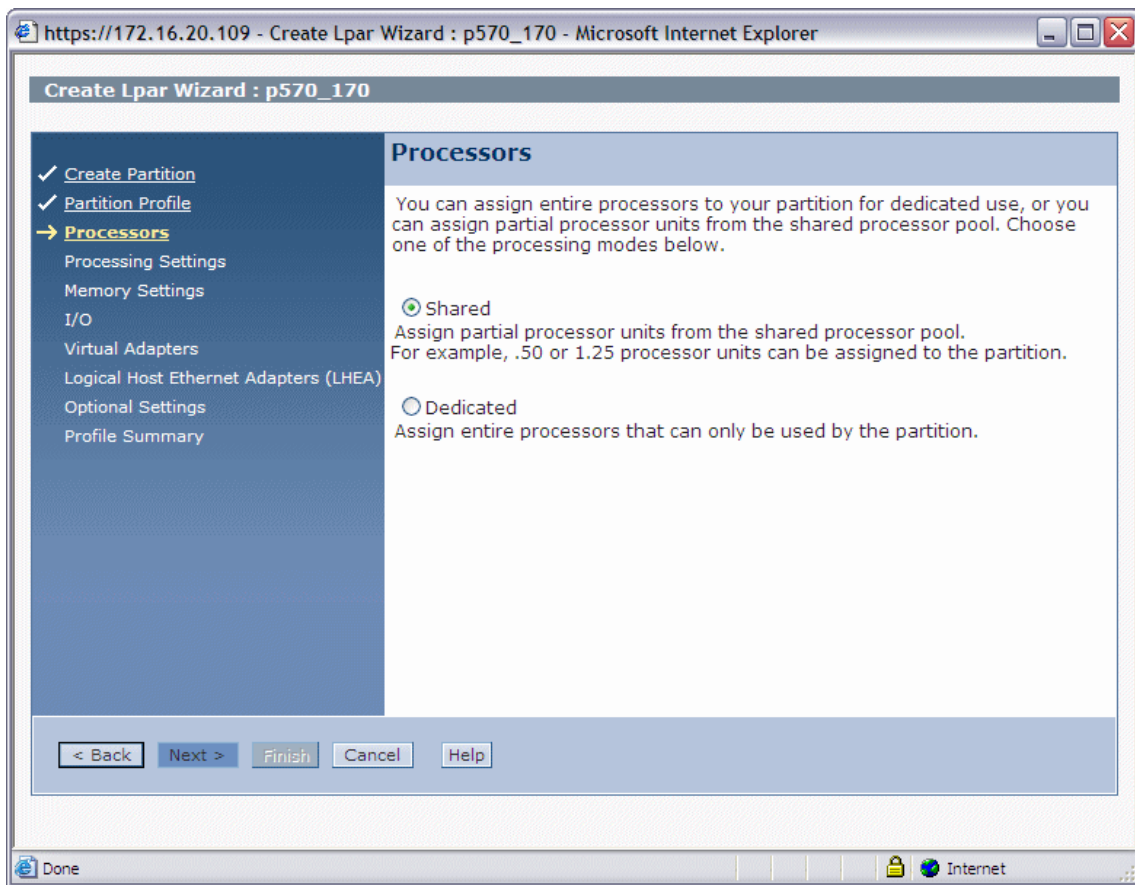

Figure 12-6 HMC Select whether processors are to be shared or dedicated
4. Select whether processors are to be part of a shared pool or dedicated for this partition. If shared is selected, it means that this will be a micro-partition. See Figure 12-6. Click **Next** to continue.